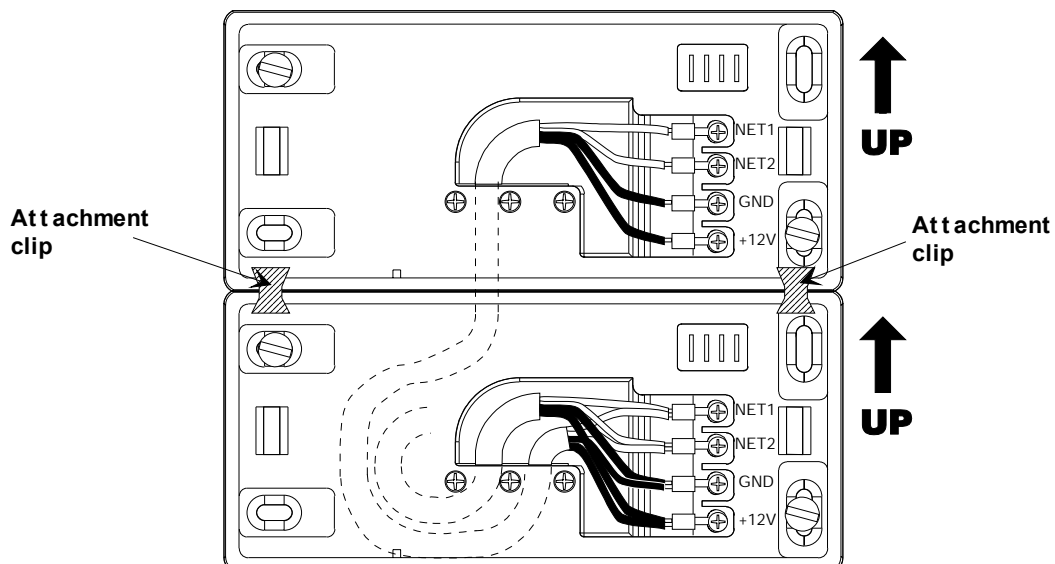
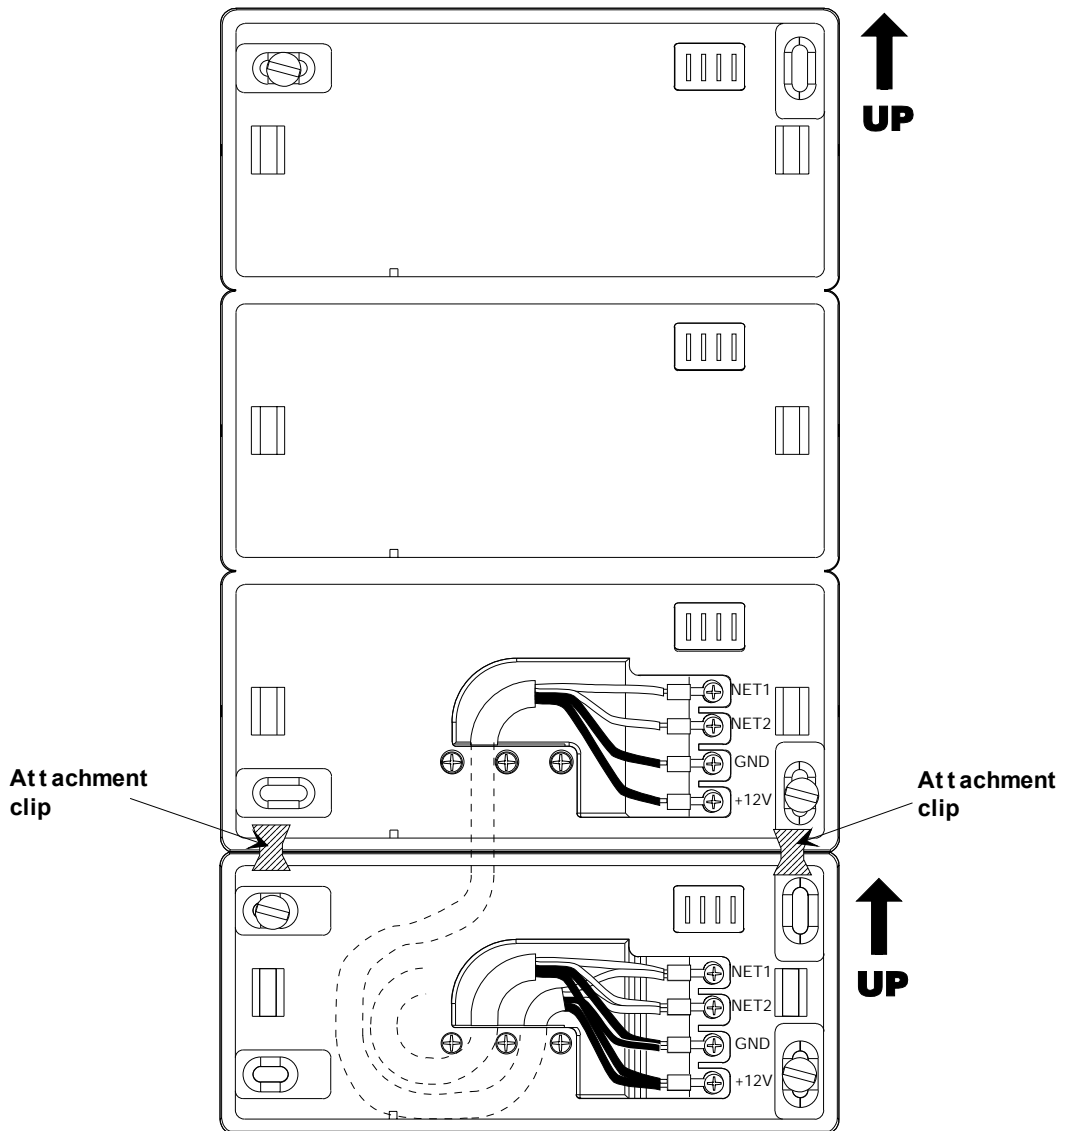

Figure 6: Combined assembly of two single module wall units
Figure 7: Combined assembly of single and triple module wall units
3. Link the frames together by inserting the two enclosed attachment clips at the rear of the frames (see Figure 6 and Figure 7).
7. Fasten the cable crimp to the contacts in the direction shown in Figure 6 and Figure 7.